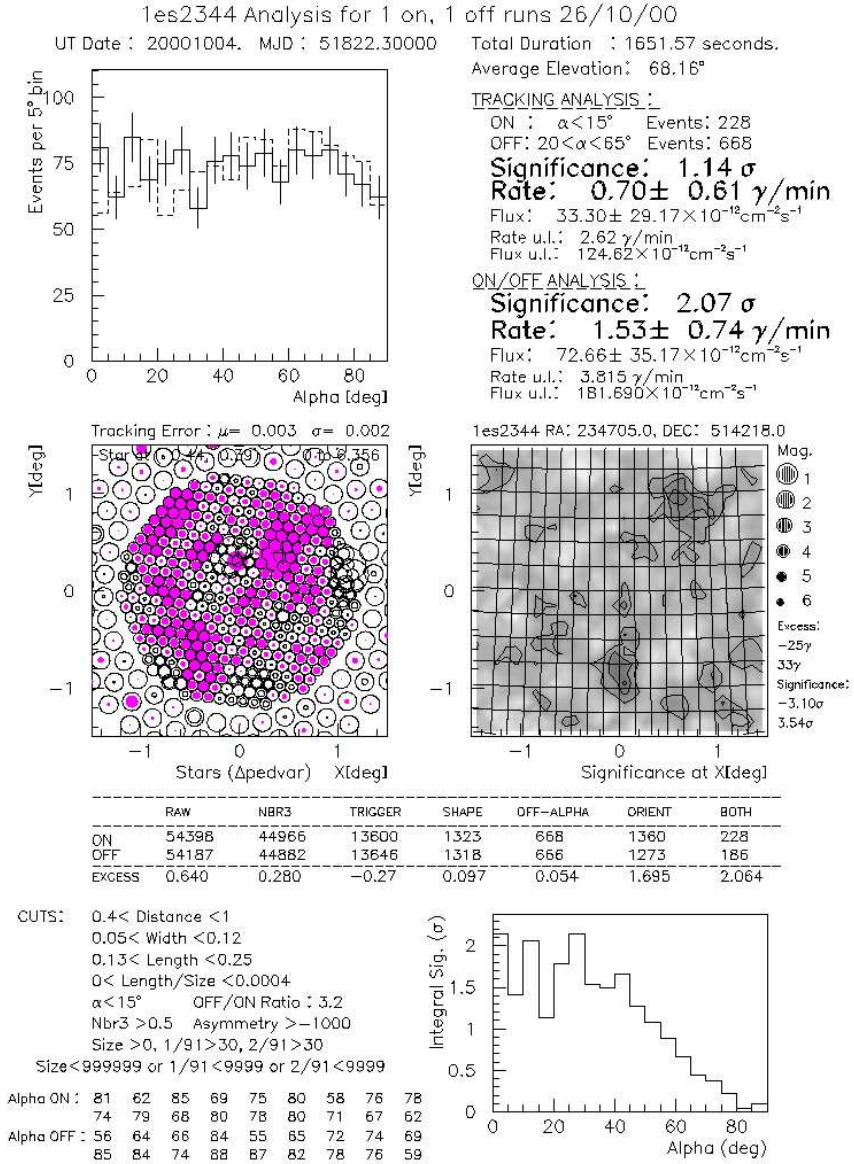

Figure 3.5: alpha\_total.eps – an example of the summed output from alphasum.kumac.
**alpha\_total.eps** This is the last plot shown in the *Quicklook*. It is generated by **alphatot.kumac** from the parameter ntuple file and shows the summed analysis for all the runs listed in the command file used to start the quicklook. An example of this output is shown in Figure 3.5 below. Its contents